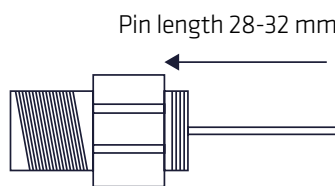

Fig. 1
1. Cut the connector pins to a length between 28-32 mm (total) as shown on the drawing of the amplifier (*Fig. 1*).